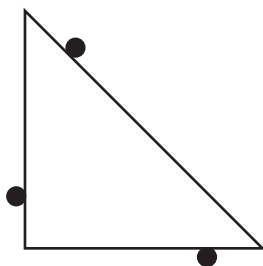
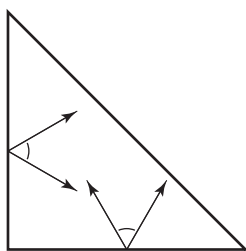

Figure 1: Three fingers contacting a triangular object.
Figure 2: Two frictional contacts on an object.
1. (a) For the stationary contacts in Figure 1, draw the rotation centers that correspond to feasible motion of the planar object and label them with the appropriate contact modes. Put the contact label for the uppermost finger first, then the middle finger, then the bottom finger. (b) Add a fourth “finger” that puts the object in form closure.
2. (a) For the friction cones in Figure 2, draw the moment-labeling representation of all forces that can be applied to the object through the contacts. (b) Draw a force that cannot be resisted by the contacts and explain why in terms of the moment labeling regions.
- (i) Explain Figure 2. (Fully explain the two cones and the green shaded region in terms of the main problem of the paper.)
- (ii) Explain how Figure 2 leads to Figure 1(ii).